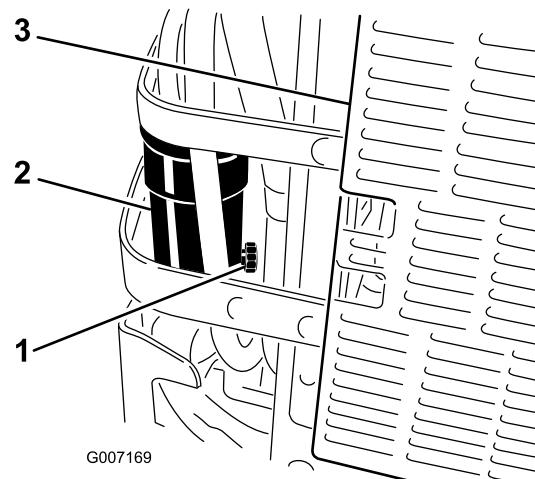

Figure 50
6. Open the drain valve on the water separator approximately one turn to allow water and other contaminates to drain (Figure 50).
7. Close the drain valve when only diesel fuel comes out (Figure 50).